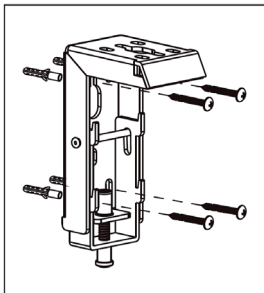

Fig. 4
- 2. Mounting on concrete supporting structures:** Mark the hole points on your wall with the brackets on your wall and drill holes to match the enclosed dowels. The dowels must be inserted tightly into the holes. If the dowels go into the holes loosely, the holes are drilled too large and larger dowels and screws must be used or new holes drilled. Insert the dowels completely into the holes and screw the brackets in place with the screws provided, as shown in Fig. 4 and 5.